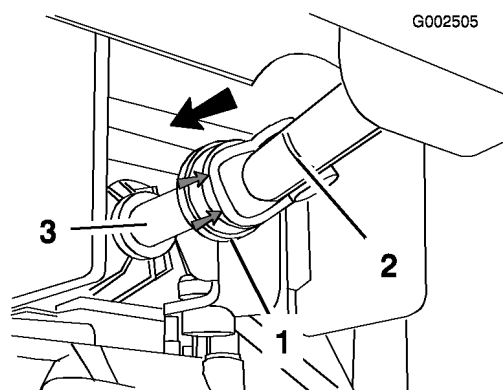

Figure 20
- Pull rearward on the rubber cowling of the front of the PTO drive shaft (Figure 20).
- Install the drive shaft onto the PTO output shaft (Figure 20).